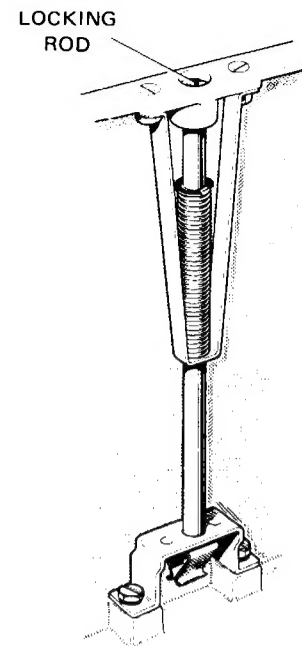

Fig. 2.1 COVER SECURING ROD
2.3 Refer to fig. 2.1. Remove the flat cardboard fitting, Item 1 covering the machine.
2.9. Open the hinged top of the cover to gain access to the two spring loaded locking rods Fig. 2.1 which secure the cover to the base tray. Turn each locking rod a quarter of a turn to disengage the cover and lift the cover clear of the machine.
- 2.23 Replace the cover and secure it with the two locking rods Fig. 2.1. These should be turned so that the slot is parallel with the side of the cover, then pushed straight down.